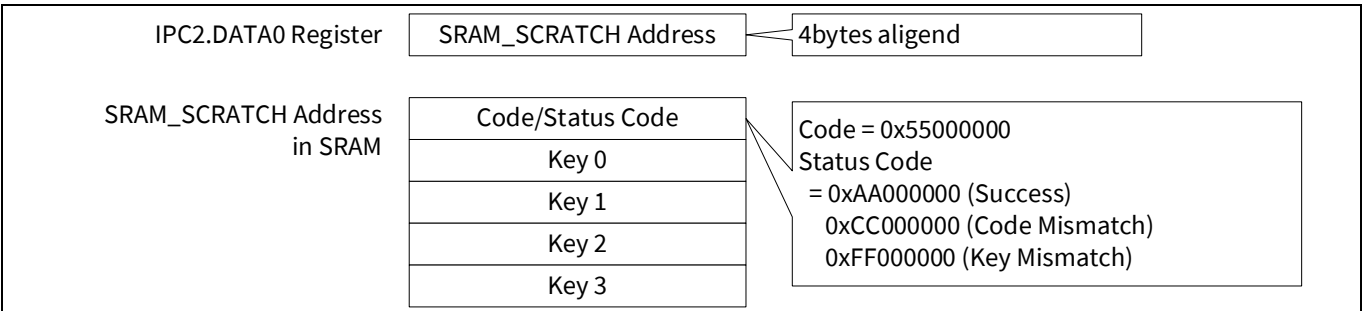

Figure 14 Parameters structure
- The parameters (including 128-bits key) input from the Sys_DAP is passed via IPC2. **Figure 14** shows the parameters structure.